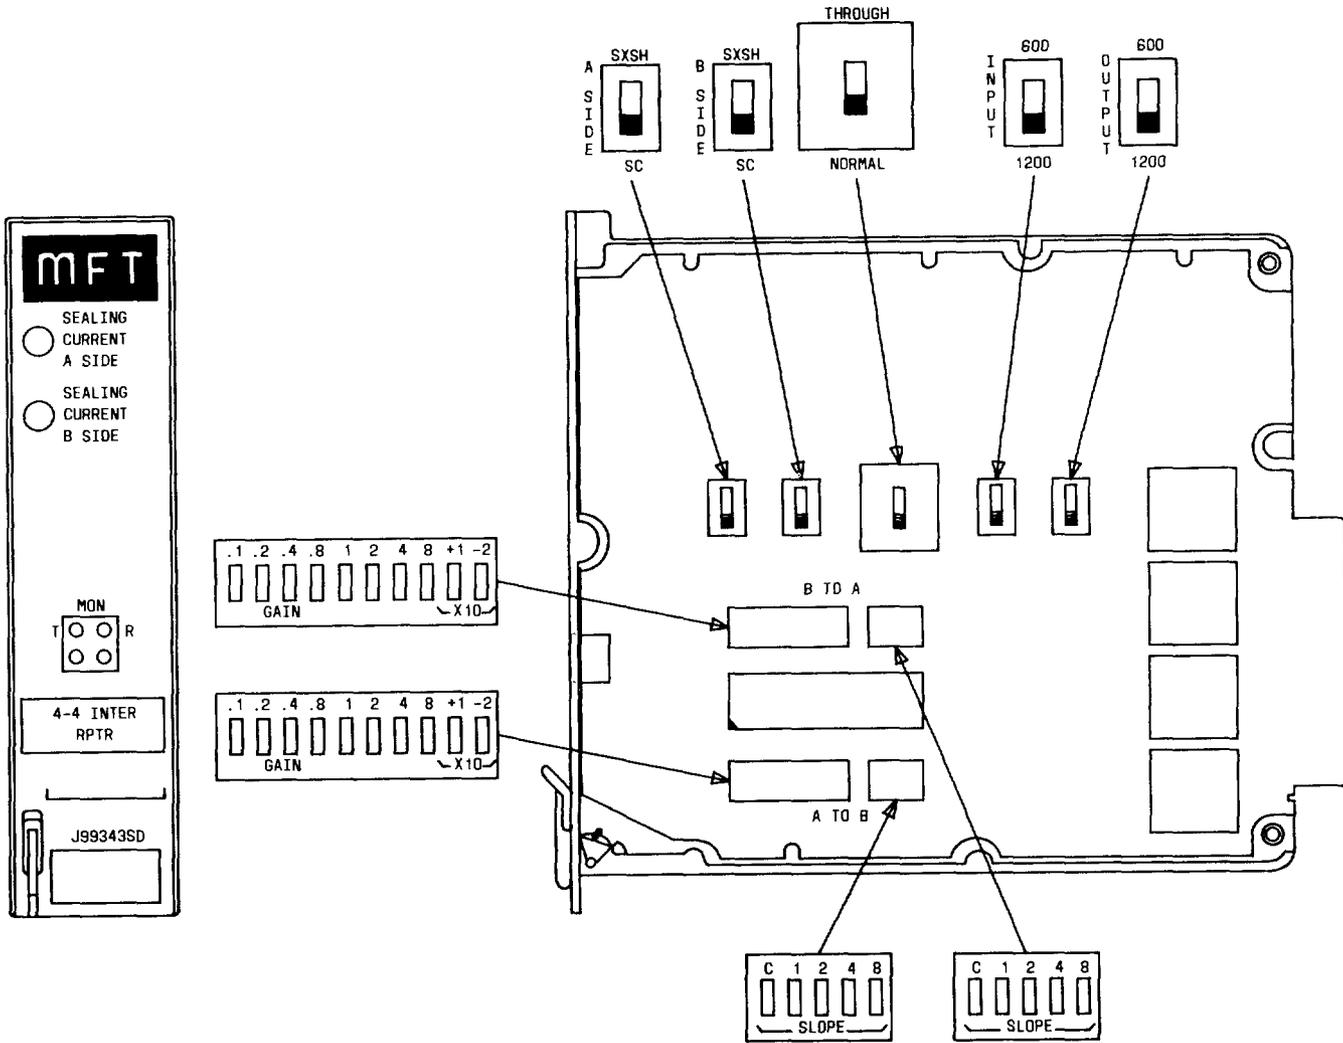
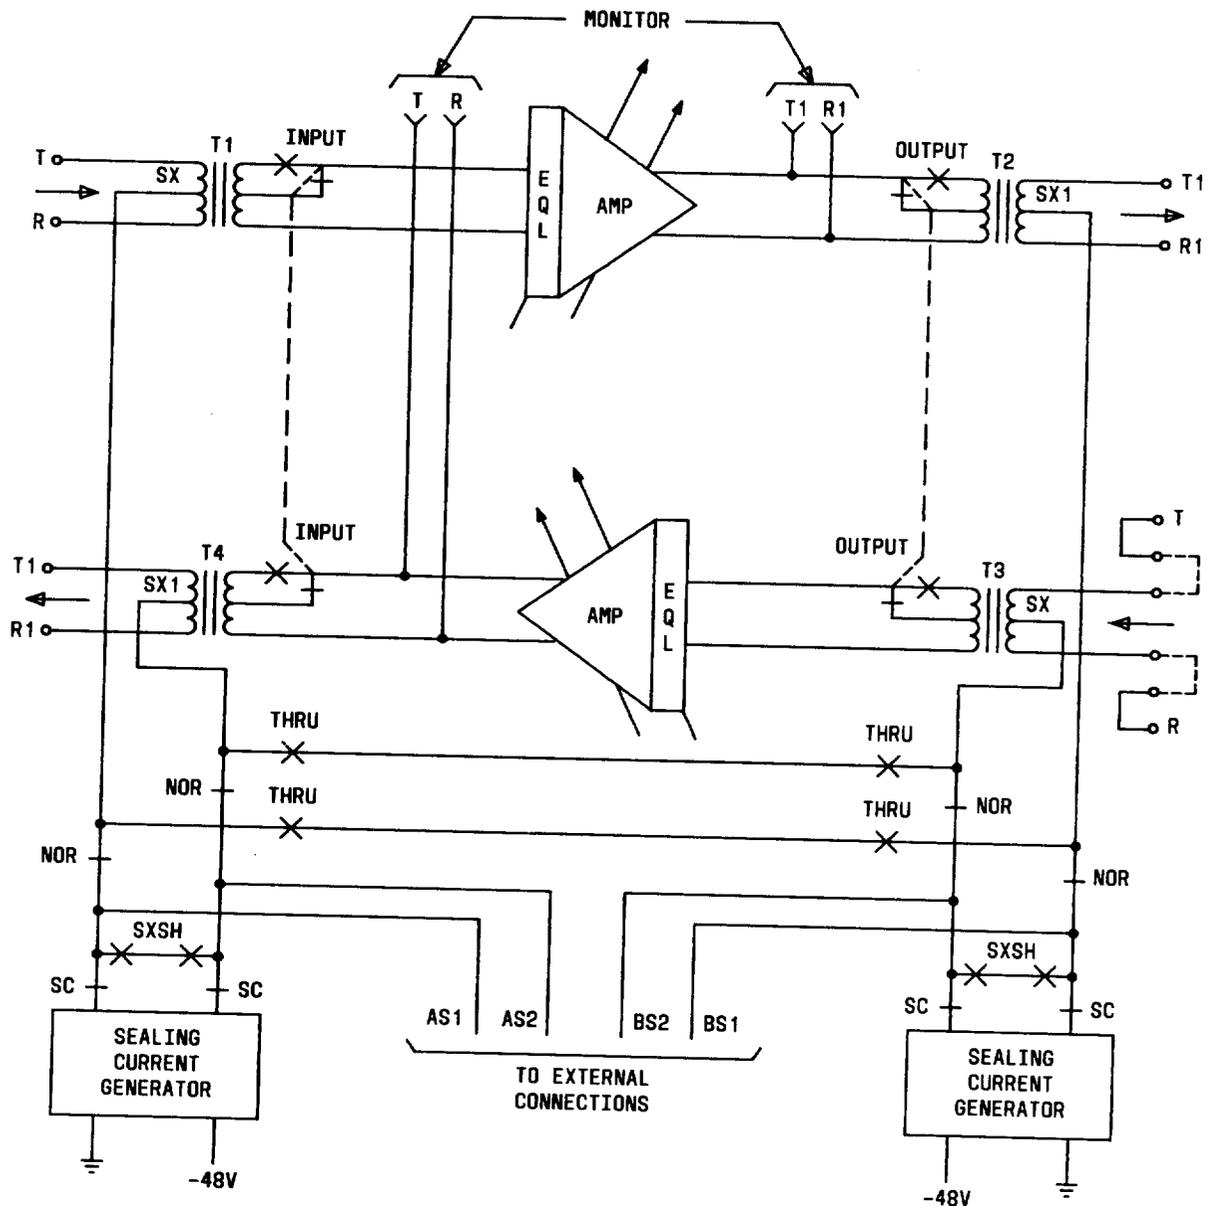

Fig. 4—4-4 Wire Transmission Unit J99343SD Component Layout
Fig. 5—Block Diagram of J99343SD Transmission Unit
tions. The J99343SD merges the transmission circuitry of the SC unit with the capability to sink or source sealing current in either or both directions. The J99343SD is shown in Fig. 4. Figure 5 is a block diagram of the unit.
3.11 The rocker-type switches for a particular function, which are described in the following paragraphs, are operated when depressed toward the respective designation. The sum of the values of the switches operated is the setting for that function. The unit controls are illustrated in Fig. 4.